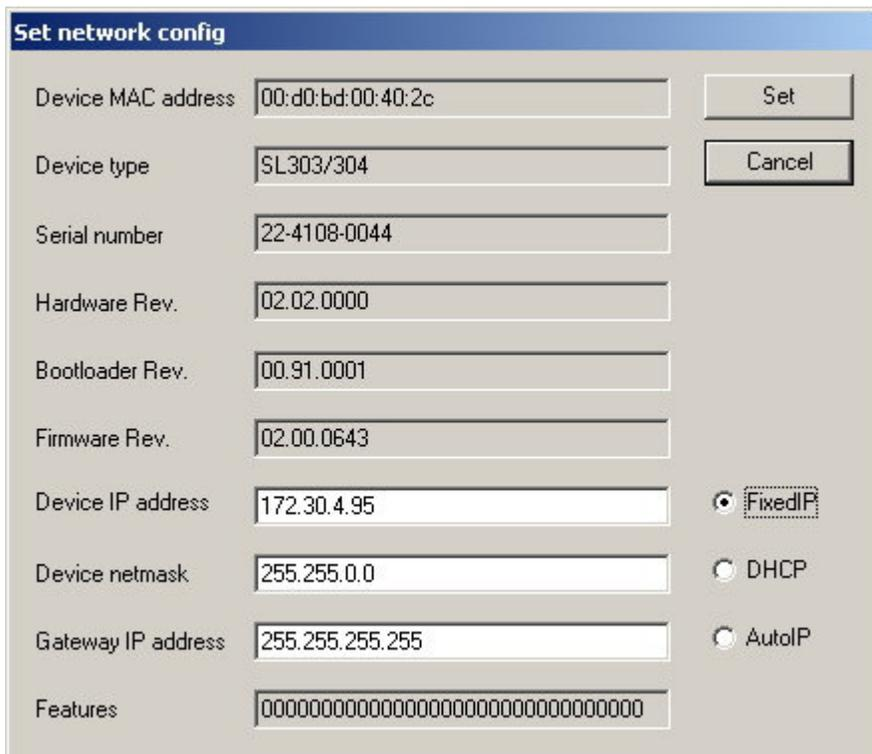

Figure 11: LAN Update Application, configuration dialog
- Press the button “Configure device” to open the configuration dialog (Figure 11)